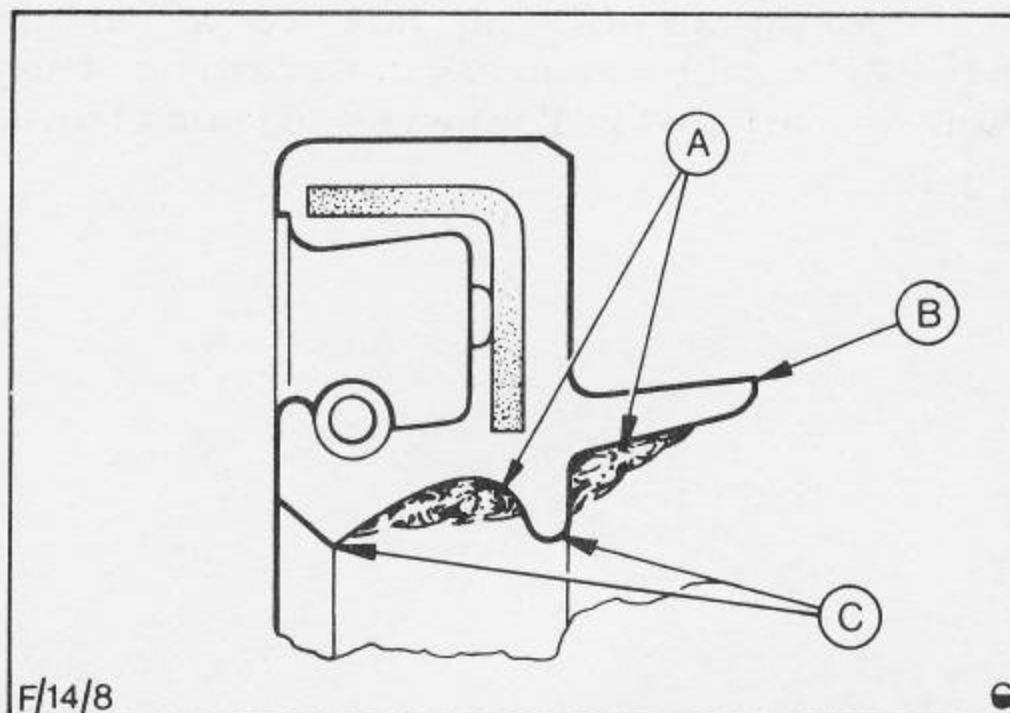

Fig. 22 Sectional view of hub grease retainer.
6. Apply a light smear of lithium based grease in the cavities between the sealing lips, to act as a lubricant reservoir for the lips of a new grease retainer, (Fig.22). This will substantially reduce the lip wear rate.